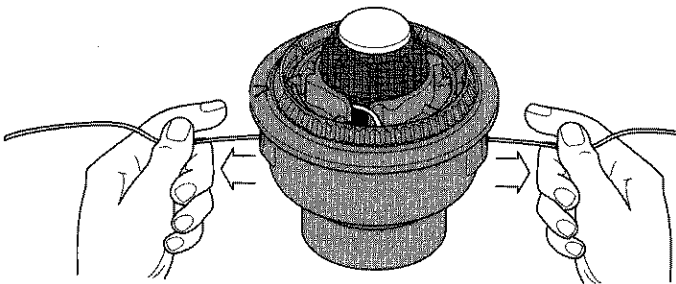

Fig. 24
9. If winding the line becomes difficult or the line jams, pull the ends of the line from the spool (Fig. 24). Continue winding the inner reel counterclockwise.
4. Hold the inner reel in place and install the bump knob, spring and foam seal. Press down and turn the bump knob clockwise. Grasp the ends and pull firmly to release the line from the holding slots in the inner reel (Fig. 24).
If the SpeedSpool® does not release line correctly, pull the ends of the line firmly from the spool (Fig. 24). If this does not release line, follow the **Cleaning the SpeedSpool®** instructions.